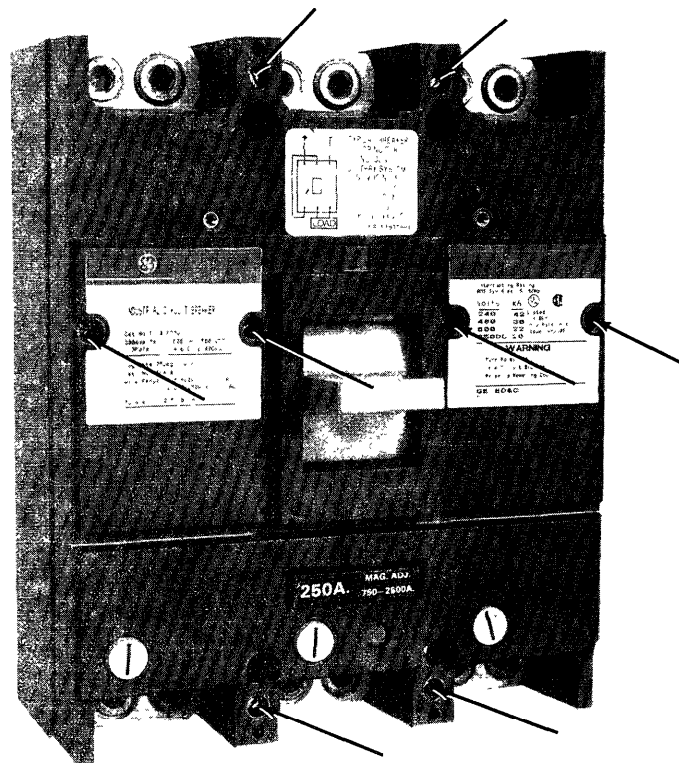

Figure 1. J 600 circuit breaker, showing the locations of the eight frame cover screws.
1. Remove the eight breaker frame cover screws, as shown in Figure 1, then remove the frame cover.
1. Remove the eight breaker frame cover screws, then remove the frame cover, as shown in Figure 1.